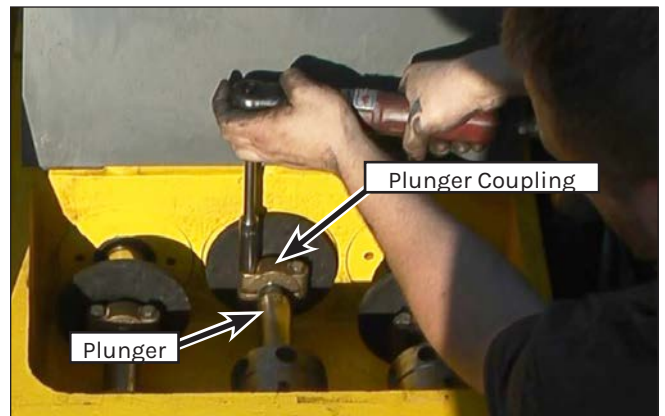

Figure 187: Plunger Coupling Installation.
19. Install the three plunger couplings, connecting the plungers to the pony rods (Figure 187).